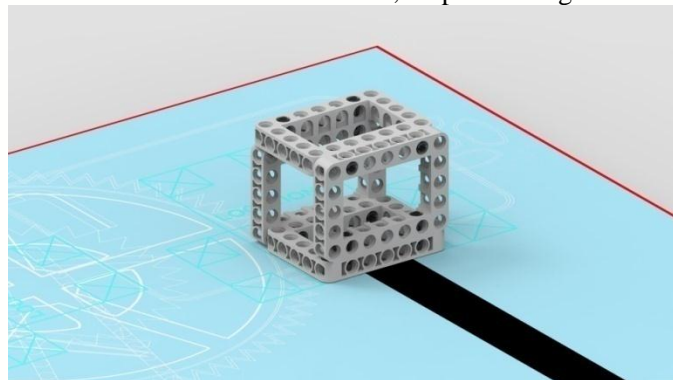

Figure 7 Iron ore model
3.4.1 The iron ore task model is placed in the middle of the model area, as shown in Figure 7.